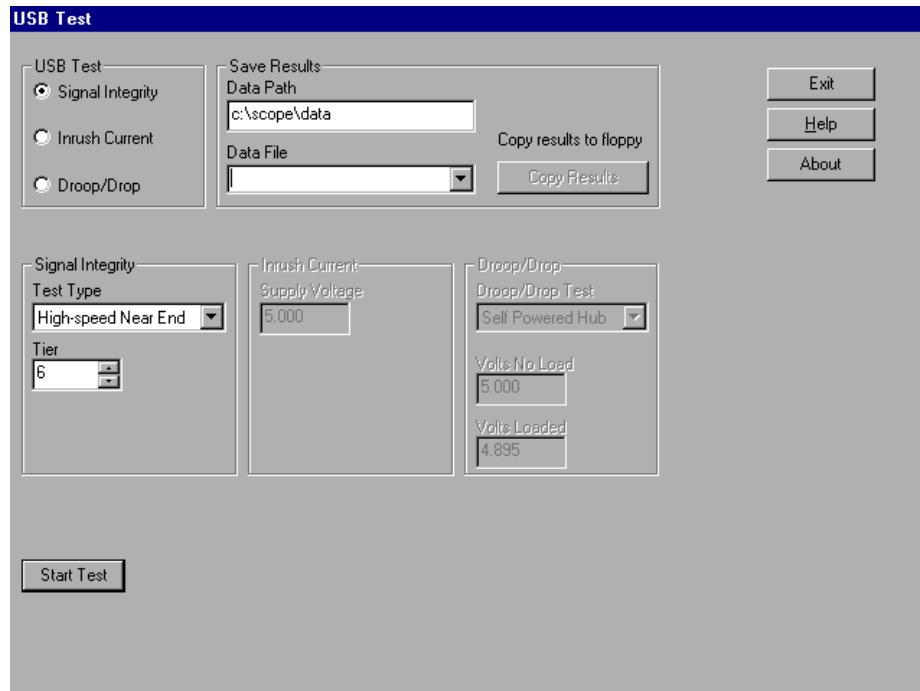

Figure 7. Infiniium USB Test Option Main Menu
12. From the Infiniium 5485xA [Analyze] pull down menu, select [USB Test] to invoke the USB test (Figure 7)
13. Configure the USB test option as shown in Figure 7...